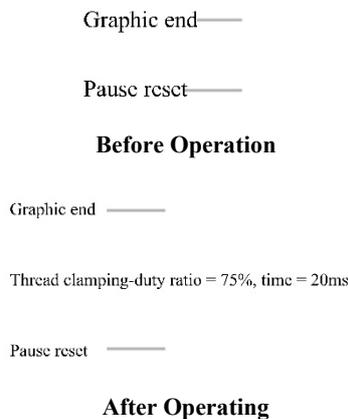

Fig. 5.10.4a Schematic Diagram of Layer End Command Set Operation
③ After adding all commands, if there are any that need to be deleted or modified, just double-click the command segment to change the parameters and the parameter setting box will pop up. To delete a command, just select the command segment and click the Delete button. To move the command segment, just select the command and click the "↑" and "↓" buttons to move the command segment up/down.
④ Finally, click OK to save this default command set. After clicking the command processing, these commands will be added by default at the end of the layer. The operation diagram is shown in Fig. 5.10.4a below.